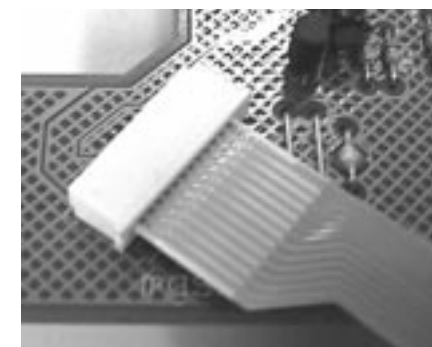

Figure 3
- 7) Connect new flexfoil to print connector (fig. 3).